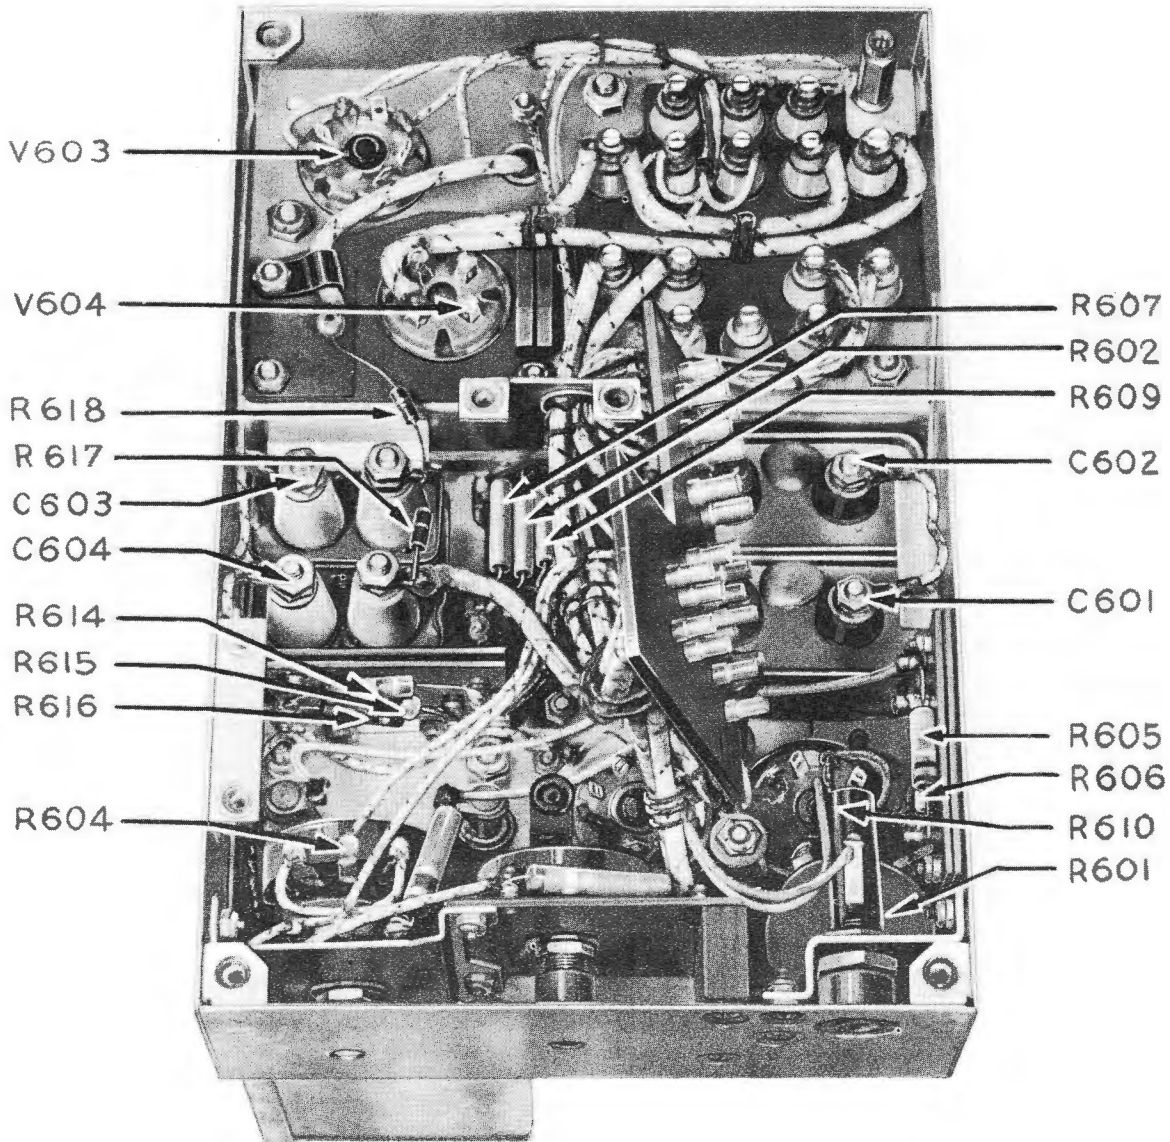

Figure 5-16. Power Supply—Bottom Terminal Board Loose
- (2) With a screw driver or a thin coin turn red end of "FUSE" (see figure 5-16) to left about 60° and pull out.
- (3) Remove fuse cartridge.
- (4) Insert new 2-ampere fuse cartridge into clip on removed end.
- (5) Put back into holder. Turn to right about 60° to lock into position.